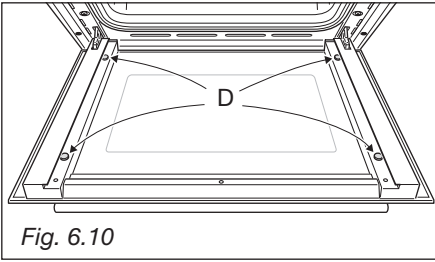

Fig. 6.10
- Check the correct positioning of the no. 4 (four) silicon rubbers "D" (fig. 6.10).